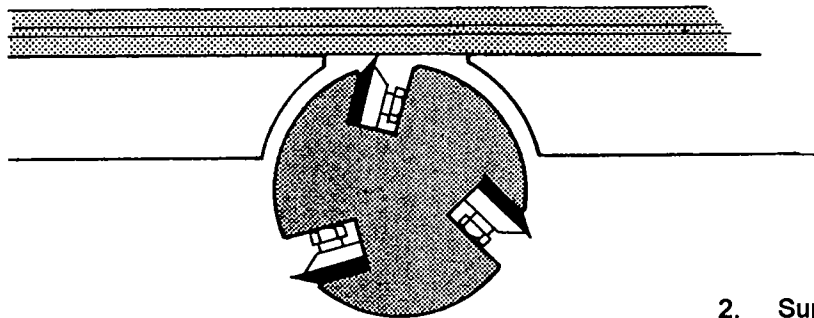

FIGURE 10
- Place a metal straightedge across both tables as shown in Figure 10, and make sure both tables are set to the exact height of the high point of the knives.